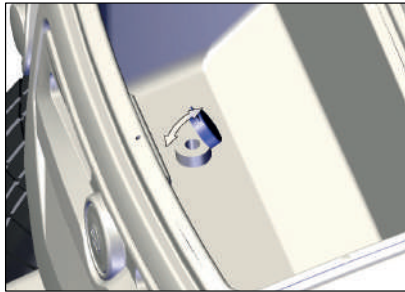

Figure 12-8 Opening the washer fluid tank cap
- Open the tank cover as indicated with the arrow (see Figure 12-8).